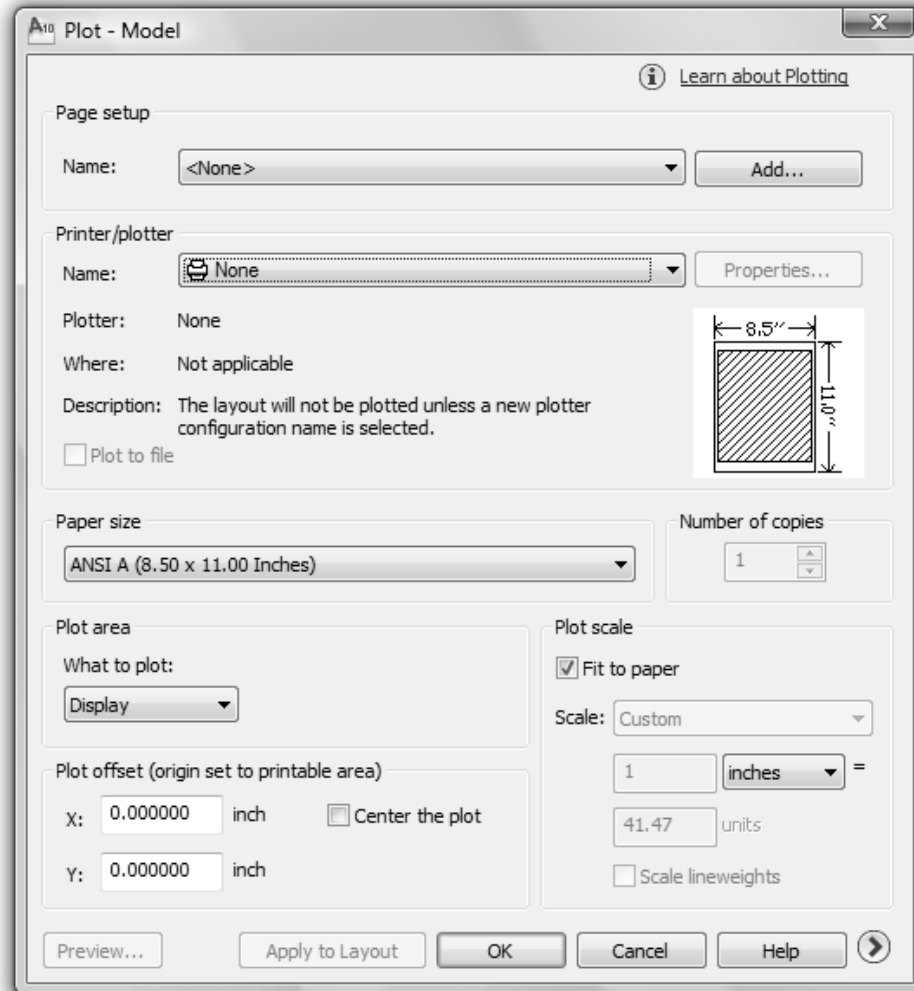

Figure 2-5.1 Plot Dialog Box; basic options
You are now in the *Plot* dialog box. This is where you tell AutoCAD what printer or plotter to use, what scale and what size paper, to name a few examples (Figure 2-5.1).
4. Make the following adjustments (Figure 2-5.1):
5. Click the “more options” arrow in the lower right corner of the *Plot* dialog box (Figure 2-5.1).